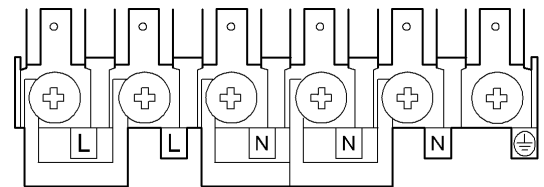

Fig.5.
- Make connection as shown in Fig 5 by proceeding as follows:-
- Clamp bare wires into the relevant terminal (Fig. 5.) and check they are held by tugging each one in turn.
AS SHOWN IN FIG.5.**